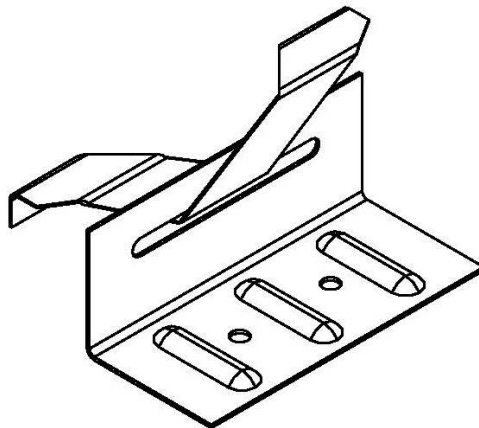

Figure 2. DMC 200S Butterfly Clip
-67.5 psf	Two (2) No. 10 x 1"	24" o.c.
**Attachment of Metal Roof Panels to the Roof Deck:** The metal roofing panels must be secured to the roof deck with DMC 200S butterfly clips. The butterfly clips consist of a "base" and a "butterfly." Refer to Figure 2 for an illustration of the butterfly clip. The "base" is 18-gauge L-shaped galvanized steel that is 2" wide, 1-3/4" high, and 4-1/2" long. The base has a 1/4" wide by 3" long slot located 1/2" from the top for the "butterfly." The "butterfly" is 22-gauge galvanized steel that is 5.045" long by 0.929" tall with two return flaps. Each DMC 200S butterfly clip is